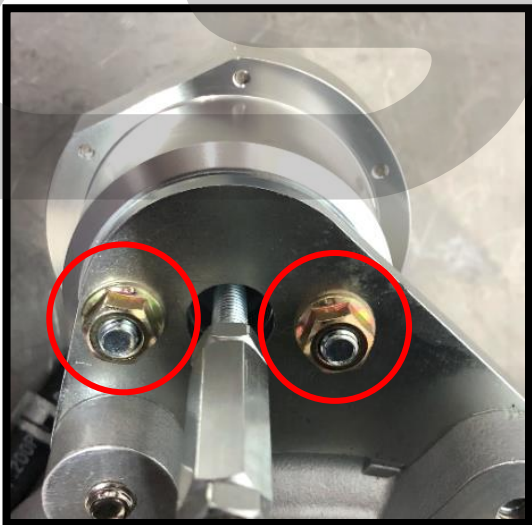

Figure 1d
- e) Using a 10mm socket and ratchet, remove the two nuts that mount the wastegate actuator to the compressor cover bracket. Then remove the IWG actuator. Shown circled in red in **Figure 1d**.